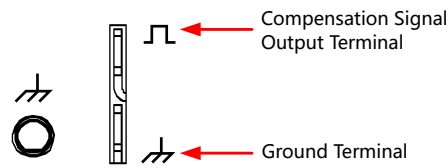

Figure 4.7 To Use the Compensation Signal
2. Connect the ground alligator clip of the probe to "Ground Terminal", as shown in Figure 4.7 below.
3. Use the probe to connect the input terminal of CH1 of the oscilloscope and the "Compensation Signal Output Terminal" of the probe, as shown in *Figure 4.7*.